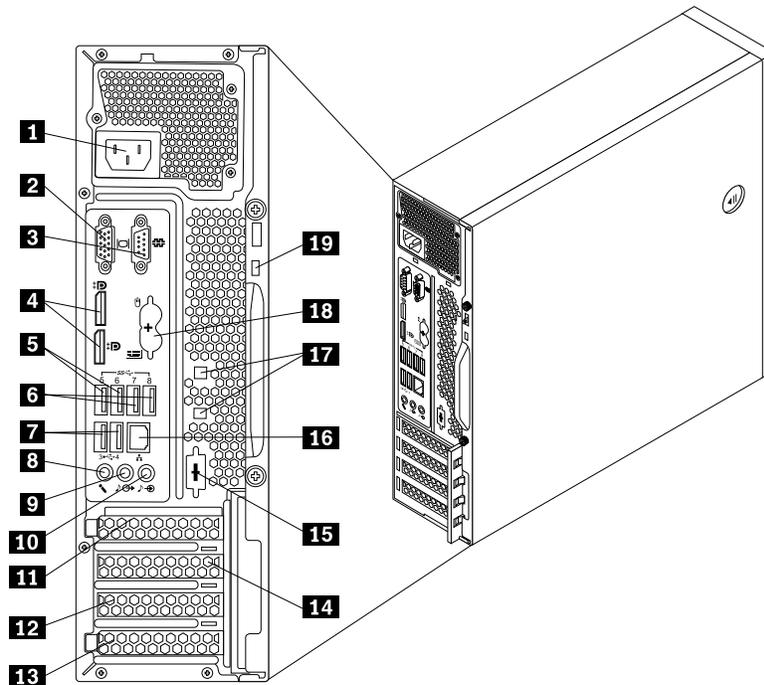

Figure 9. ThinkCentre M93/p rear connector locations
- Figure 9 “ThinkCentre M93/p rear connector locations” on page 78 shows the locations of the connectors on the rear of the ThinkCentre M93/p computer. Some connectors on the rear of your computer are color-coded to help you determine where to connect the cables on your computer.